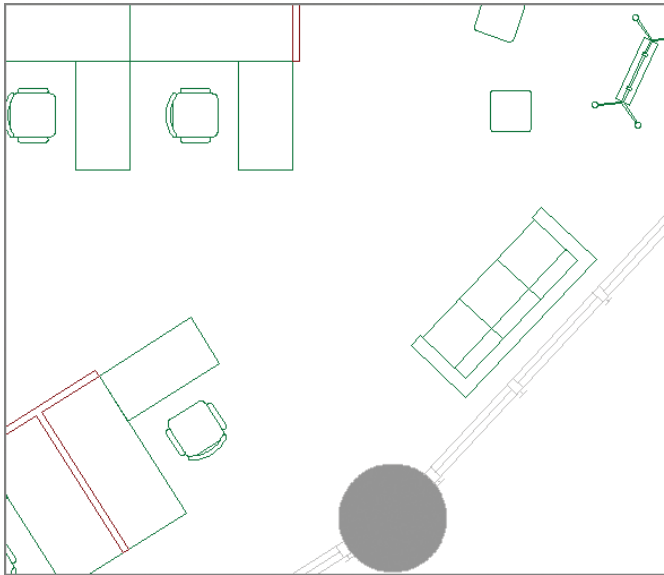

FIGURE 9.10 Inserting Sofa2 again as a local block
9. Click approximately where you deleted the armchairs and side table to insert a Sofa2 block reference in the drawing, and rotate it so that the sofa is again parallel to the exterior wall (see Figure 9.10).